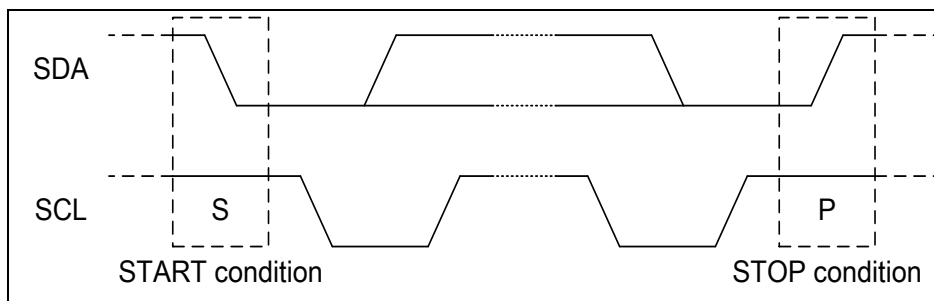

Figure 11 Definition of START and STOP Condition
Both SDA and SCL lines remain HIGH when the bus is not busy. A HIGH-to-LOW transition of SDA, while SCL is HIGH is defined as the START condition (S). A LOW-to-HIGH transition of SDA while SCL is HIGH is defined as the STOP condition (P). The START and STOP conditions are illustrated in **Figure 11**.